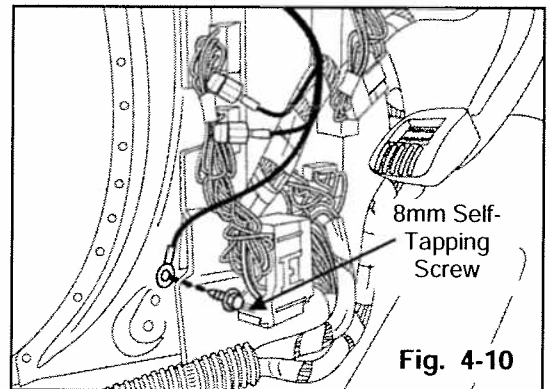

Fig. 4-10
7. Using power driver and 8mm socket, drive screw into vehicle cowl area sheet metal, as shown. (Fig. 4-10)